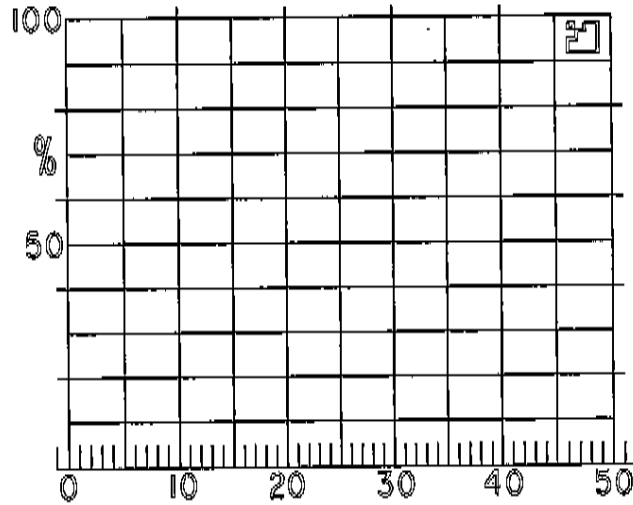

Fig.4 Internal graticule, type D9.
Internal graticule	type 125 (see Fig.4)
The tube can be mounted in any position. It must not be supported by the socket and not by the base region alone. The reference points on adjoining edges of the faceplate (see Fig.4) enable the tube to be positioned accurately in the front panel, with optimum alignment of the internal graticule with respect to the bezel.
1. Because the frit seal is visible through the faceplate, and not necessarily aligned with the internal graticule, application of an external mask, or bezel, with open area of max. 70 mm x 56 mm is recommended. The internal graticule is aligned with the faceplate by using the faceplate reference points (see Fig.4).